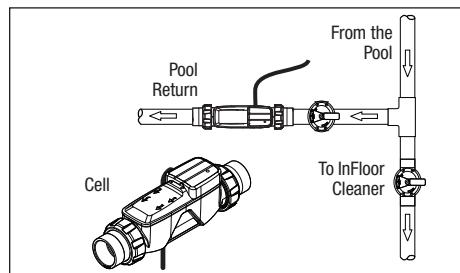

Figure 7. New Pool Plumbing for In-Floor Systems
**NOTE:** Do not install the chlorinator on in-floor systems that do not have a dedicated pool return as shown in Figure 7.